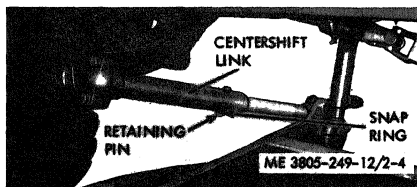

Figure 2-4. Centershift link adjustment.
(1) Lower the blade to the ground and shift the rack as necessary to remove the weight from the centershift link (fig. 2-4).
(2) Remove the snap ring from the link retaining pin and remove the retaining pin.